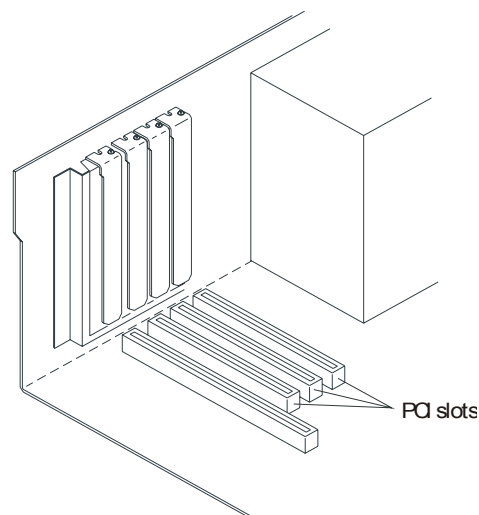

Figure 4-1 Locating a PCI bus Expansion Slot.
2. Locate an unused, unobstructed PCI bus expansion slot (Figure 4-1) that supports bus mastering. (PCI slots are usually white or ivory.) See your computer documentation to determine if the PCI slot supports bus mastering.